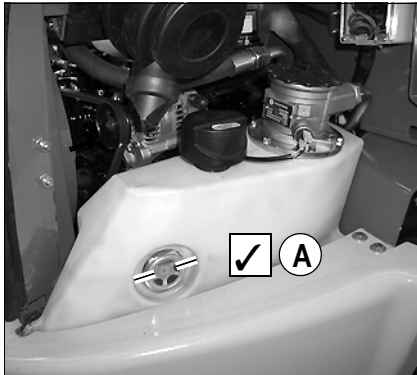

Fig. 176 : Oil level sight glass on the hydraulic oil reservoir
- Check the hydraulic oil level in the oil level sight glass (fig. 176/A)